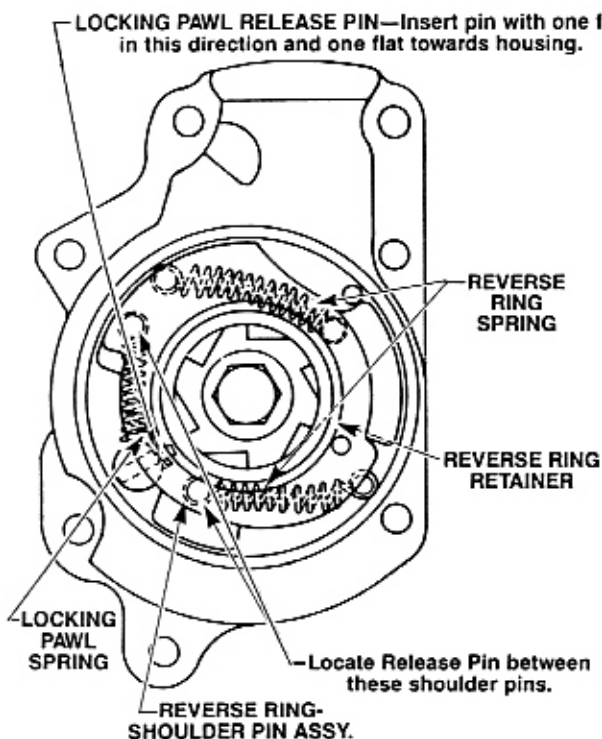
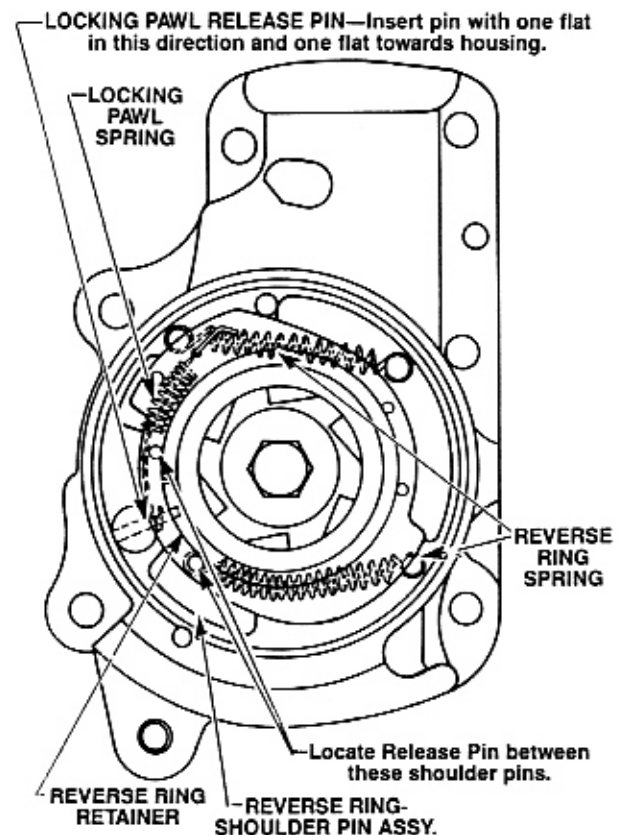

FIGURE 4-1. REVERSE RING ASSEMBLY FOR AG AND ATG HOISTS
FIGURE 4-2. REVERSE RING ASSEMBLY FOR FG, FTG, WG-9, WG-11, WG-13 AND WG-15 HOISTS
pin assembly (26). Place reverse ring-shoulder pin assembly on right frame. See figure 4-1 for AG and ATG model hoists or figure 4-2 for FG and FTG model hoists. Make sure that reverse ring-shoulder pin assembly is located so that when installed, the locking pawl release pin (27) will be between the designated shoulder pins. Install reverse ring retainer (22). Line up two flats on locking pawl release pin and drive pin into locking pawl until pin is flush with the inside of locking pawl. Place end loop of locking pawl spring (24) in position and continue driving locking pawl release pin until the outside end of pin is flush with locking pawl. Connect remaining end of locking pawl spring and install two reverse ring springs (25). Apply a light coating of Duff-Norton H-7613 grease, or equivalent, to reverse ring-spring assembly (-23) and fill cavity in sprocket shaft using grease gun.